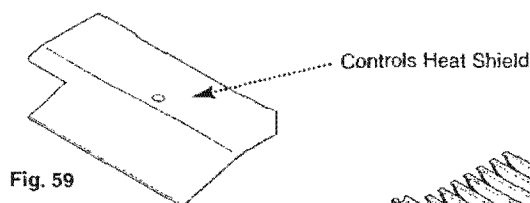

Fig. 59
1. Remove controls heat shield from its retaining clips (Fig. 59).